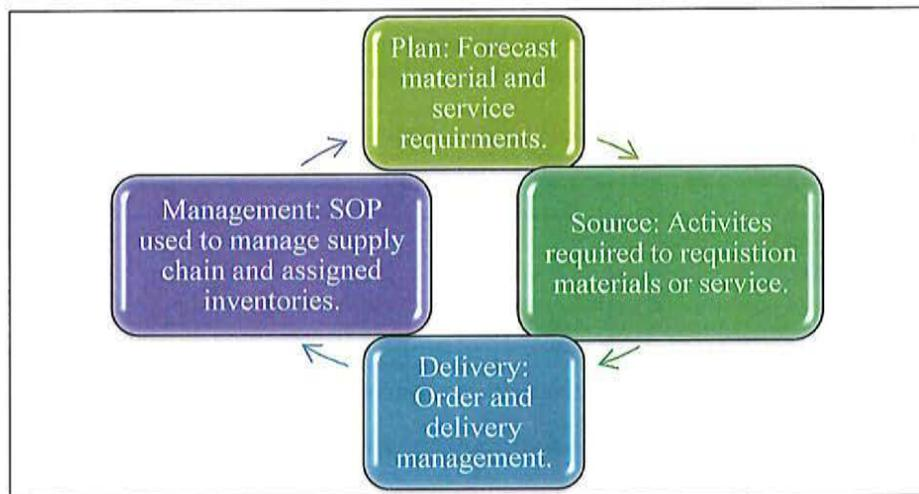

Figure 10 – Material Requirement Planning
- Computing Material Requirements (see figure 10)